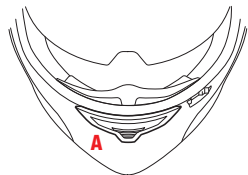

FIGURE 3
FRONT AIR INTAKE CHIN – A – Figure 3/4
- Figure 3: air intake closed.